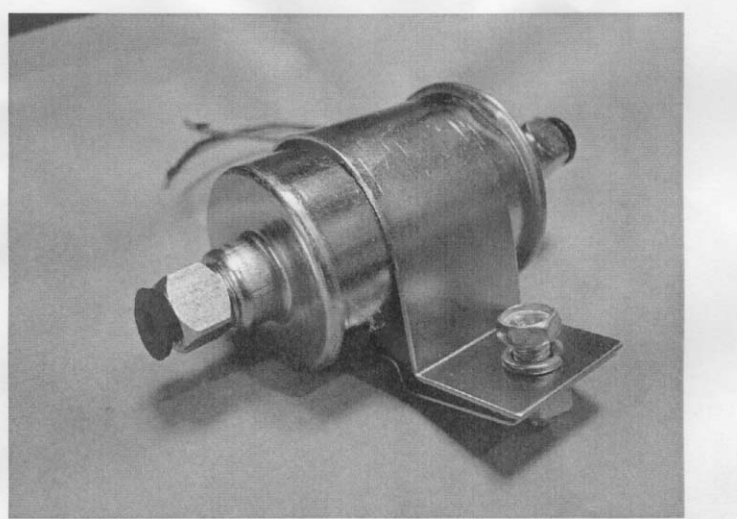

Figure 4. View showing the assembly of mounting bracket and associated hardware
4. Assemble mounting clamp using supplied nut, lock washer and bolt as shown in Figure 4. Vehicle mounting location will vary based on application.